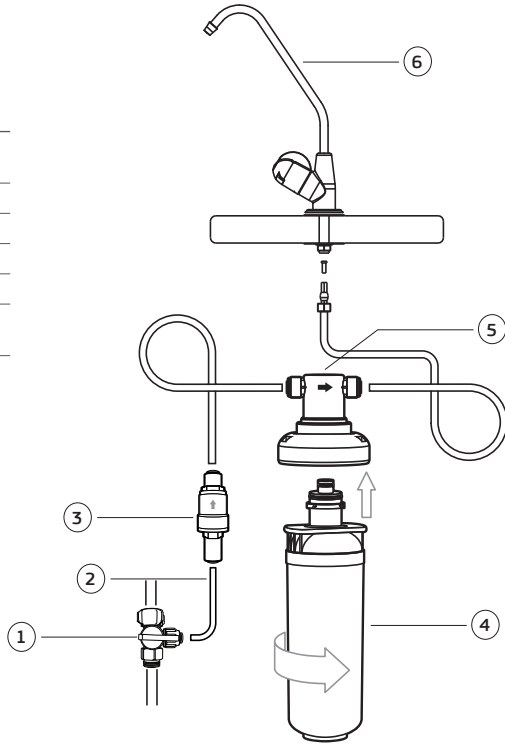

Figure 2
7. Fit tubing into connectors (for quick-connect fittings instructions see Fig. 2). Allow slack in the tubing.